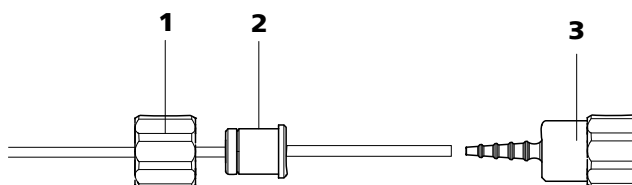

Figure 29 Install pump tubing connection without filter
- **Case B:** a 6.2744.160 pump tubing connection **without filter** (see figure 29, page 50).